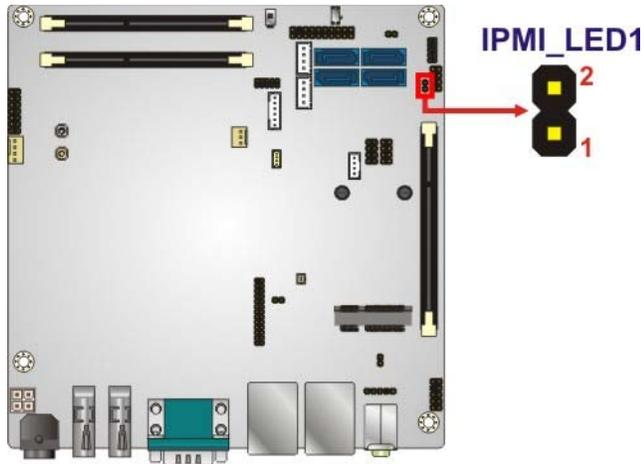

Figure 3-14: IPMI LED Connector Location
- CN Location:** See Figure 3-14